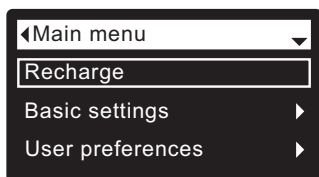

FIG. 44
2. Make sure **Recharge** is highlighted (See Figure 44).